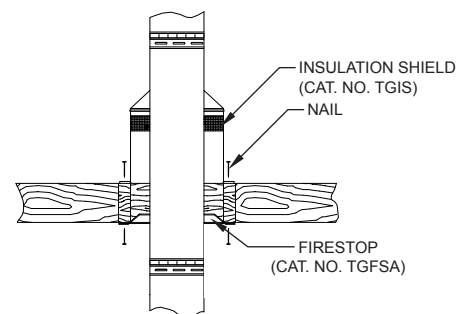

FIG. 4
7. The first chimney section through the joist area into attic is to be approximately two (2) feet. If the pipe sections in the attic are not enclosed, an insulation shield (TGIS) must be installed. Lower insulation shield (TGIS) over TG pipe until the flange is resting on the joist. Secure the TGIS in place by nailing the flange to the joist. See FIG. 4. **If the section within the attic area is to be chase enclosed,** the TGIS is not required.